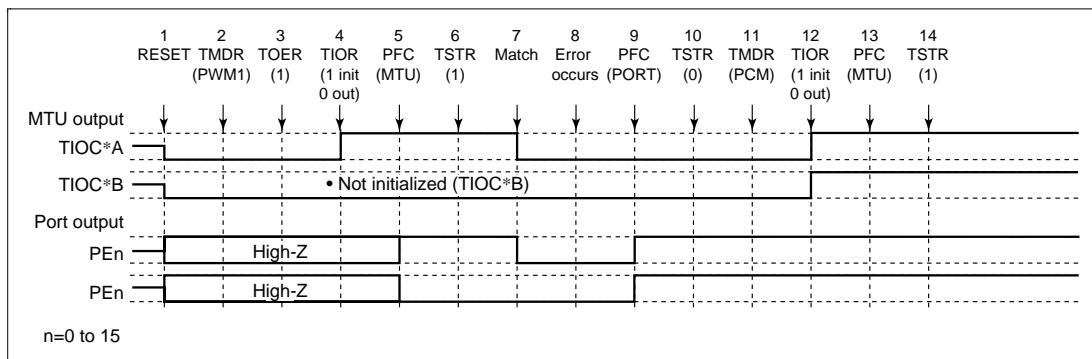

Figure 12.105 Error Occurrence in PWM Mode 1, Recovery in Phase Counting Mode
(10) Operation when Error Occurs during PWM Mode 1 Operation, and Operation is Restarted in Phase Counting Mode: Figure 12.105 shows an explanatory diagram of the case where an error occurs in PWM mode 1 and operation is restarted in phase counting mode after re-setting.